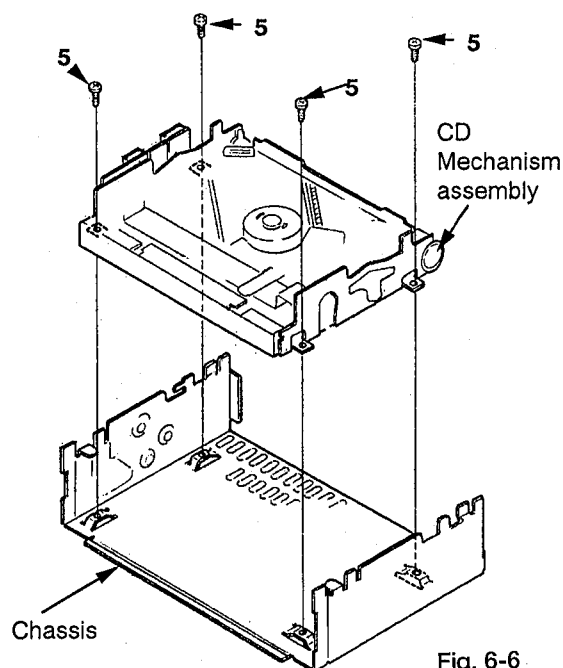

Fig. 6-6
■ Removal of CD mechanism assembly (Fig. 6-6)